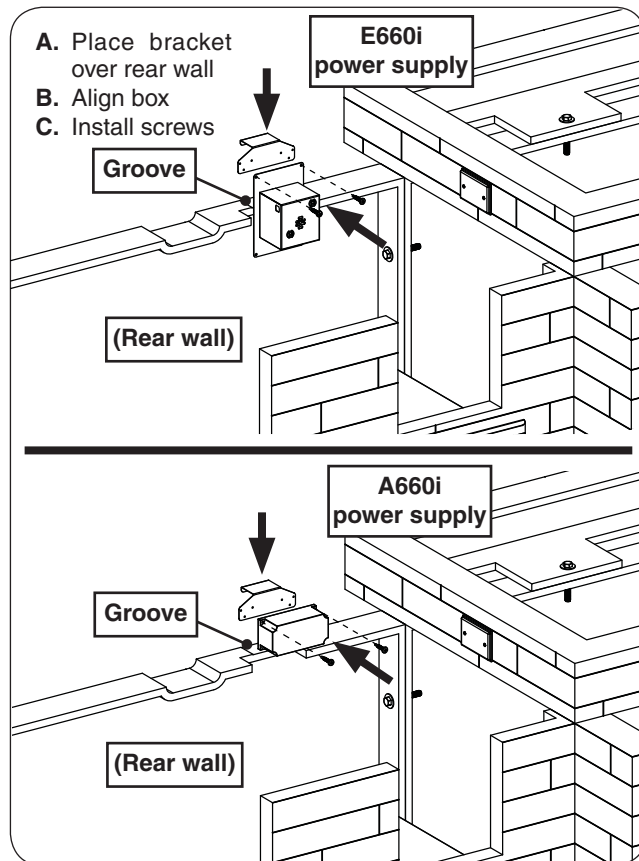

Fig. 17-1 Install power supply box
1. **First** place the power supply box bracket over the rear wall, in the groove just to the left of the top piece (see Fig. 17-1).
2. Align the pilot holes on the power supply box with the holes on the bracket, then insert the two Phillips screws and tighten with the power drill and #2 Phillips driver (see Fig. 17-1). **DO NOT OVERTIGHTEN.**